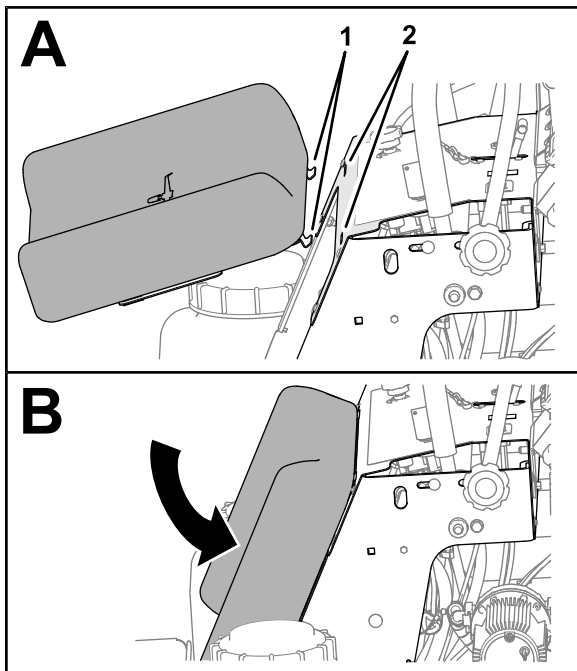

Figure 60
1. Insert the tabs of the knee pad into the slots in the control console (Figure 60).
2. Rotate the knee pad down (Figure 60).